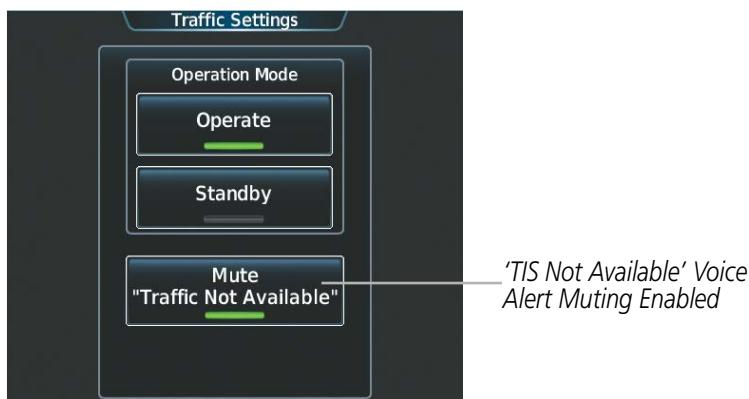

Figure 6-142 Traffic Settings Screen for TIS
- 2) Touch the **Mute “Traffic Not Available”** Button (Figure 6-142). ‘TNA MUTE ON’ appears in the upper right corner of the Traffic Map.